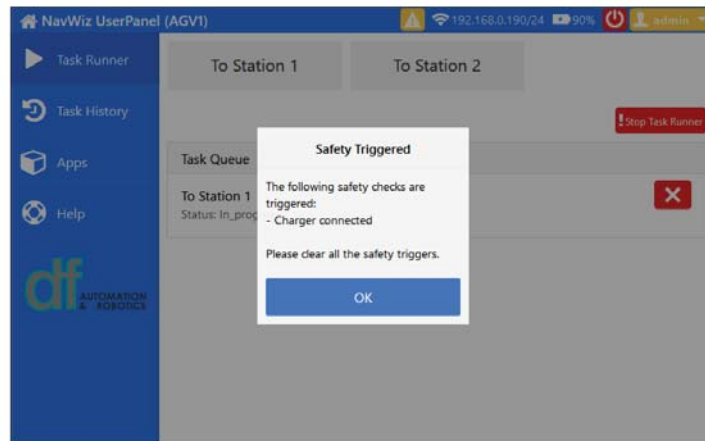

Fig. 3.32: Charger Connected Safety Triggeres Message
- i. Upon the start of AGV operation with the manual charging cable connected, the operation will stop immediately and a **Safety Triggered** popup with **Charger connected** message will be shown on the LCD Touchscreen. See Fig. 3.32.